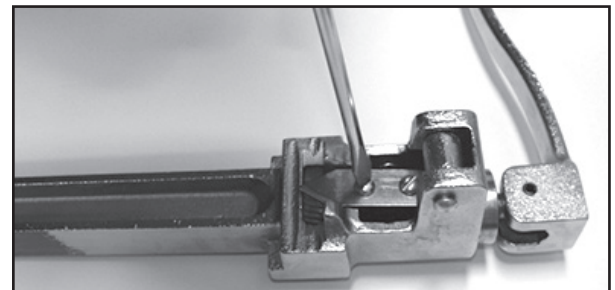

Figure 15
3. Align holes and refasten the two screws. (Figure 15)